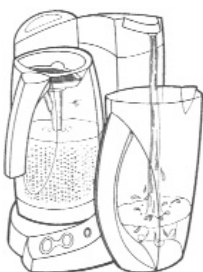

FIGURE 3
**CLEAN WATER CARAFE:** This is designed to hold up to 2 quarts (approx. 2 liters) of sanitized water. It is also designed to look great on your table. It is made of tough, durable plastic and will last years of normal use. It fits snugly in the curved space under the dispense nozzle. When placed here, it activates the auto-dispense button. At the end of the sanitizing process, water is automatically dispensed into the clean water carafe. There is no need to push the manual dispense button when filling this carafe. (FIGURE 3)